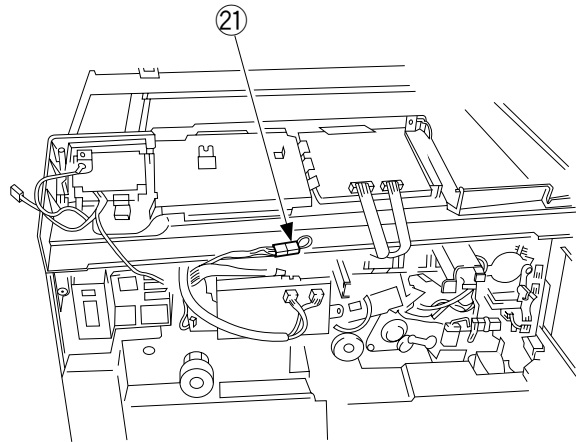

Figure 8-415
15) Disconnect the shorting connector ⑳ shown in Figure 8-415.